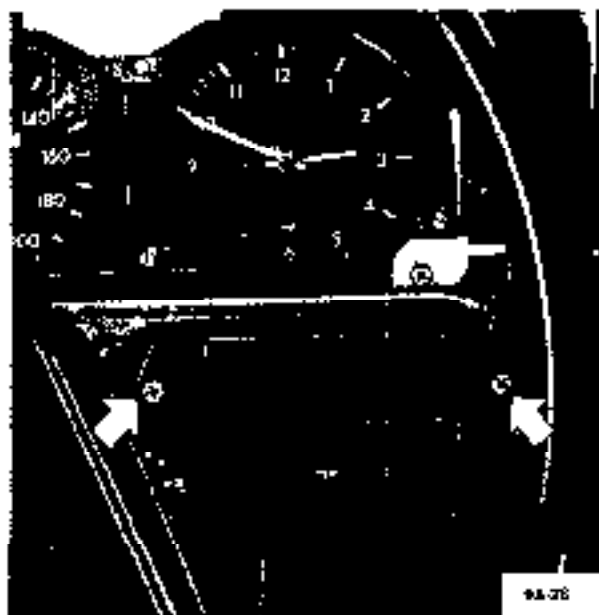

Figure 9A-40 Control Housing Attaching Screws
2. Remove two sheet metal screws for control housing attachment. See Figure 9A-40.
3. In engine compartment, detach **bowden** control wire from heater valve. See Figure 9A-41.